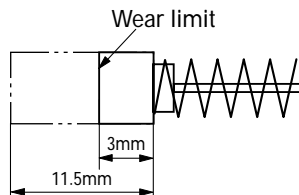

Fig. 14
5. **Inspecting the carbon brushes (Fig. 14)**